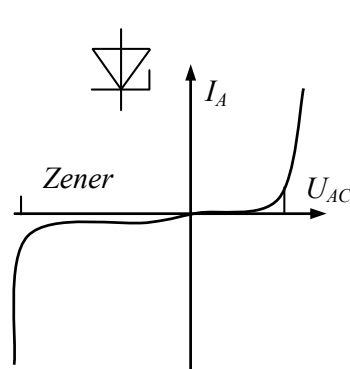

Fig. 1.12
**Zener diode.** A *Zener diode* sometimes called *breakdown diode* or *stabilitrone*, is designed to operate in the reverse breakdown, or Zener, region, beyond the peak inverse voltage rating of normal diodes. This reverse breakdown voltage is called the Zener, or *reference voltage*, which can range between –2,4 V and –200 V (Fig. 1.12). The Zener effect causes a “soft” breakdown whereas the avalanche effect causes a sharper turnover. Both effects are used in the Zener diode. The manufacturer predetermines the Zener and avalanche voltages.